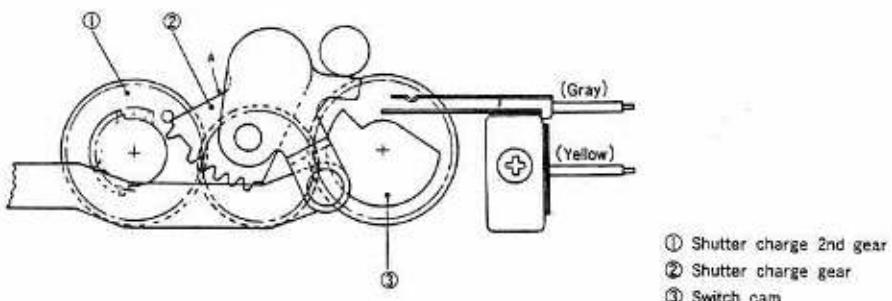

Fig. 31
- (2) Set the shutter charge baseplate subassembly into the initial position (Fig. 31) and equip it to the unit assembled in (1), above.
- (3) Turn shutter charge gear ② in the direction of arrow A so that it will not come in gear with the deficit section of shutter charge 2nd gear ①. Connect the mirror box motor with the power source and turn the motor. Here, the current must be less than 20mA (Check at 4.5V) plus that of the motor itself.
- (4) Check the wiring of the motor and mirror box switch.